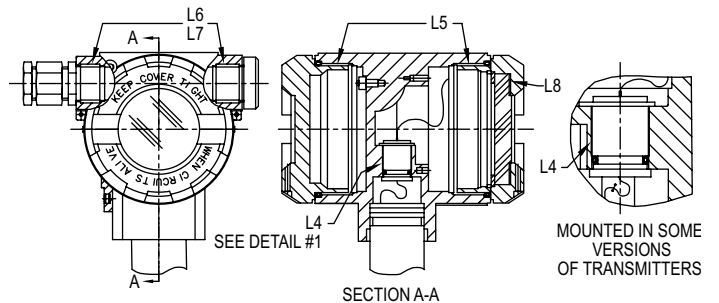

Figure 4: The explosion - proof joints of Series 3400 and 3500 transmitters
- Permissible gap of flameproof joint "L4" of Appendix I Figure 4 is smaller than defined in EN 60079-1:2007 and cannot be greater than the value passed. See Table 1 for flameproof joint specifications.